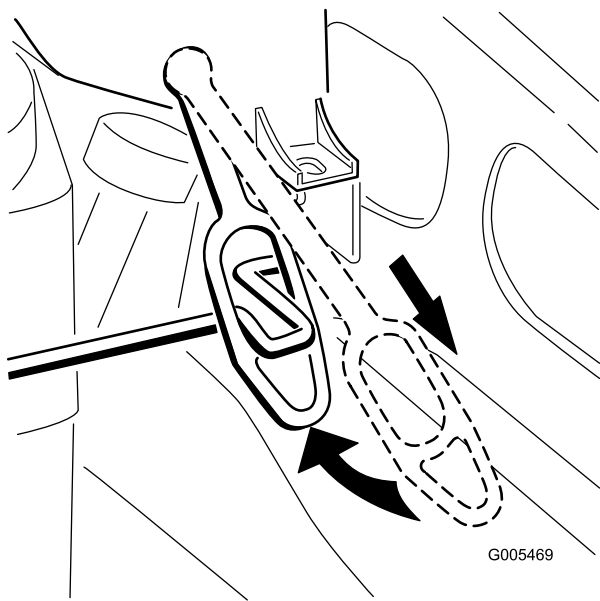

Figure 7
- Pull the retainer straps down and over the forward facing bends in the cover rod (Figure 7) to secure the cover in place.
1. To remove the engine cover, pull down and forward on the retaining straps to free them from the cover rod (Figure 7). Lift the cover away.
3. Pull the retainer straps down and over the forward facing bends in the cover rod (Figure 7) to secure the cover in place.